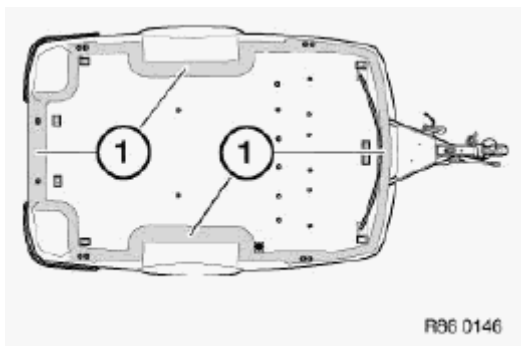

Fig. 136: Identifying GFP Apron (Marked In Gray)
It is particularly important to clean the contact surface of the GFP apron (1) (marked in gray) on which the rubber seal of the hood rests. Refer to **Fig. 136**.